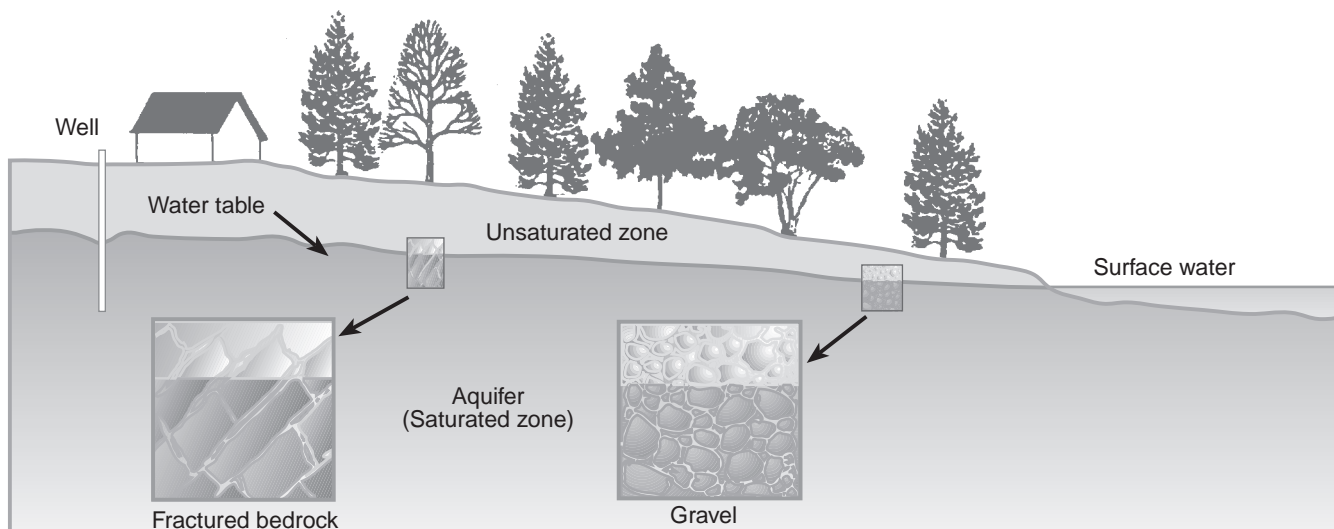

Figure 2. The groundwater system.
**The groundwater system.** Groundwater lies below the soil surface and fills the pore spaces in and around rock, gravel, sand and other materials. Contrary to popular belief, groundwater does not move through vast underground rivers and lakes, but through water-saturated zones called aquifers (see Figure 2).